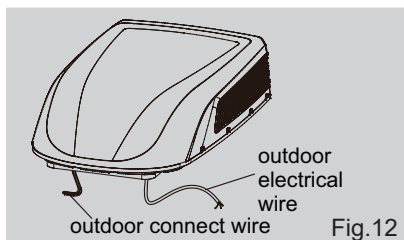

Fig.12
1. As shown in Fig.12, the outdoor unit has two sets of outgoing wires, which are power cord (high current) and the control signal wires respectively. The former one should be directly connected to the power supply terminal while the latter one should be connected to the control signal wire of the indoor unit.